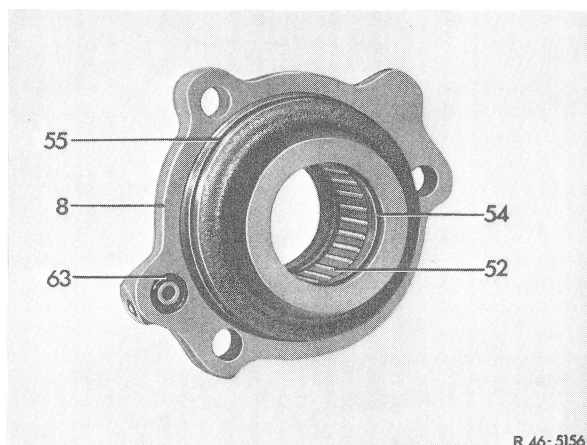

Fig. 28
29 Insert O-rings (54, 55, 63) into housing cover (8) (Fig. 28).